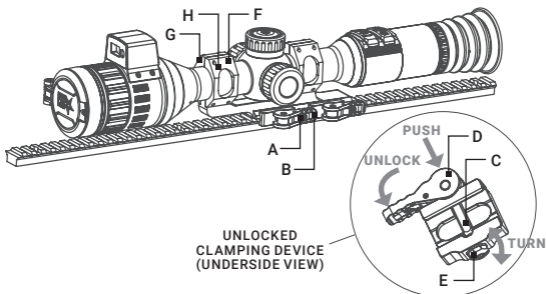

FIGURE 2-6. INSTALLATION WITH QUICK RELEASE MOUNT
The Spectrum LRF 4K scope can be mounted on a Picatinny/Weaver rail using quick release (QR) mount (Figure 2-6).